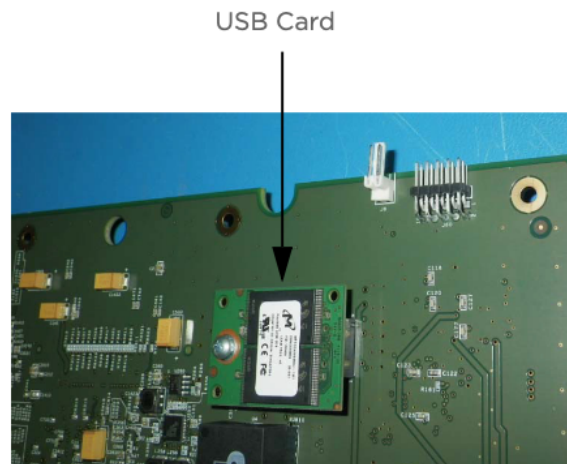

Figure 4-7 USB Flash Drive
- 9** To replace the USB card, remove the screw that attaches the old USB to the CPU PCB. Install the new USB card. Refer to Figure 4-7 on page 4-13.
- 2** Complete replacement of the CPU PCBA transfers a nonformatted and nonprogrammed USB drive PCBA into the qube monitor. Refer to Figure 4-7 on page 4-13 to identify the location of the USB drive.
- 1** Locate the USB Drive is on the back side of the CPU PCBA. Refer to Figure 4-7 on page 4-13 for the location of the USB Drive.